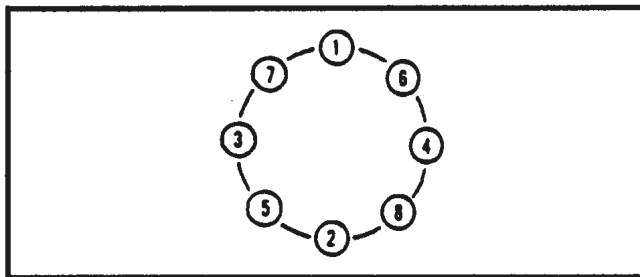

Figure 14-3. Wheel Nut Tightening Sequence
1. Install the wheel on the hub. Tighten the nuts evenly in the sequence shown in Figure 14-3.